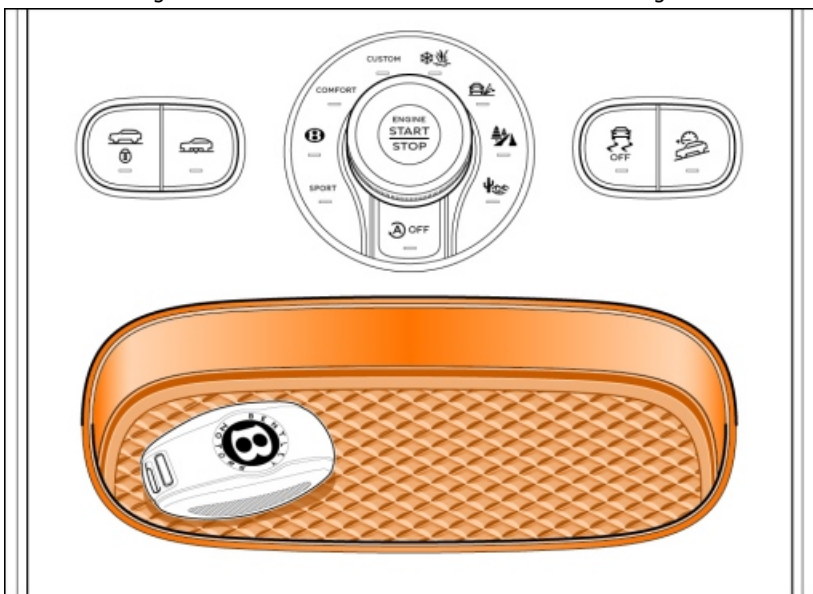

Figure 1
3. Switch on the ignition using the ignition key (see Figure 1)